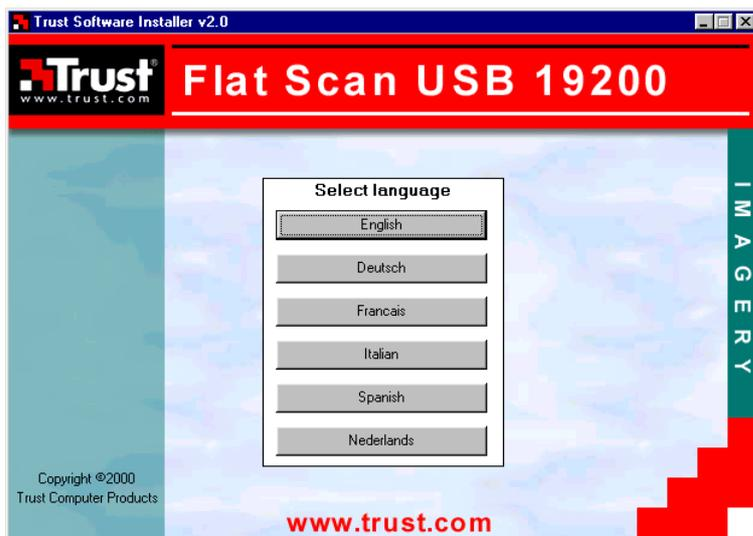

Figure 2: Selecting the desired language
4. In the command line, type [D:\SETUP.EXE] and click on 'OK' to start the installation. Figure 2 will appear.